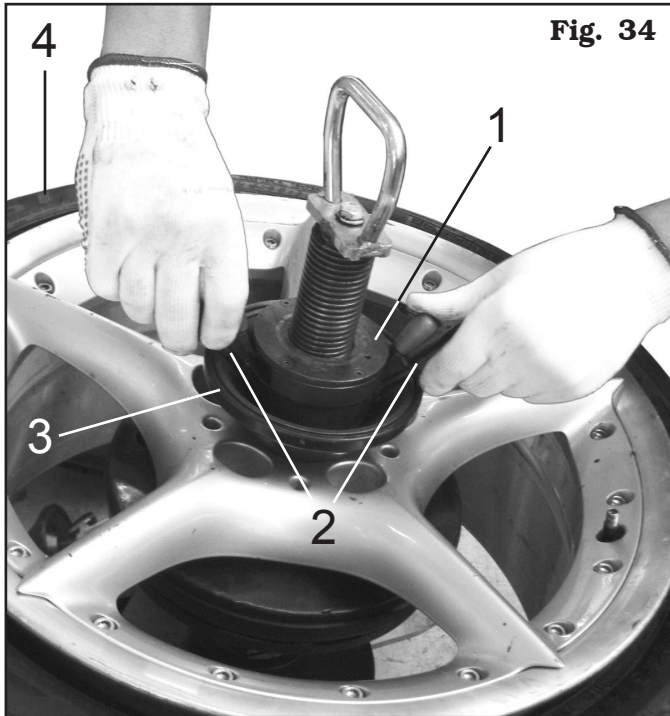

Fig. 34
6. then, turn the ring nut (**Fig. 34 ref. 1**) using the outside levers (**Fig. 34 ref. 2**) until the cone completely clamps (**Fig. 34 ref. 3**) the wheel (**Fig. 34 ref. 4**);